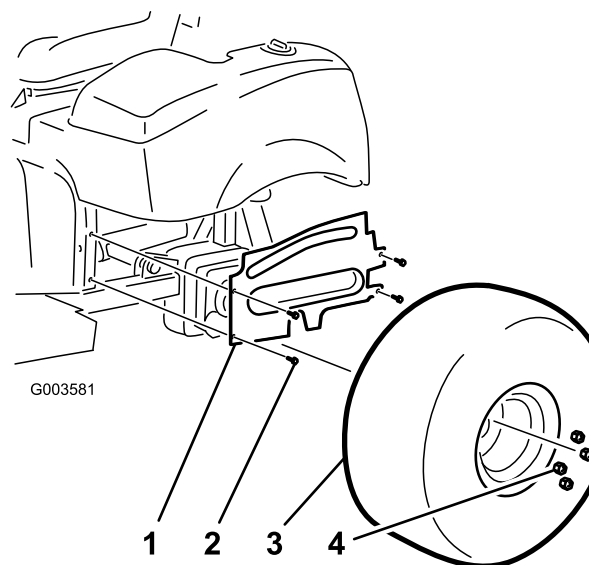

Figure 38
9. Install the 4 flange-head screws securing the left wheel shroud to the frame (Figure 38).
10. Install the left rear tire (Figure 38).